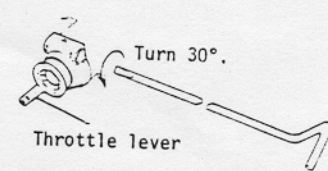

Fig. 32
- 3) Alternatively, if the engine stops or is slow to pick up speed, without smoking or a strong exhaust note, it is probable that the idling mixture is too lean. In this case, it will be necessary to turn the Mixture Control Screw in the direction of the + mark (i.e. counter-clockwise) approximately 1/12 turn (30°) (Fig. 32).